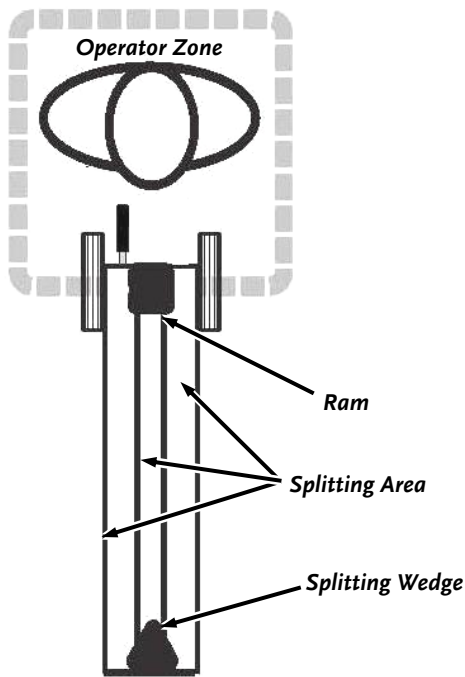

Figure 5
- When operating the Log Splitter, make sure you are positioned in the safe operating area (OPERATOR ZONE) as shown in **Figure 5**. You must stay in the safe operating area at all times when the Ram is in motion (whether extending or retracting). Never place any part of your body into a position that causes an unsafe operating condition.